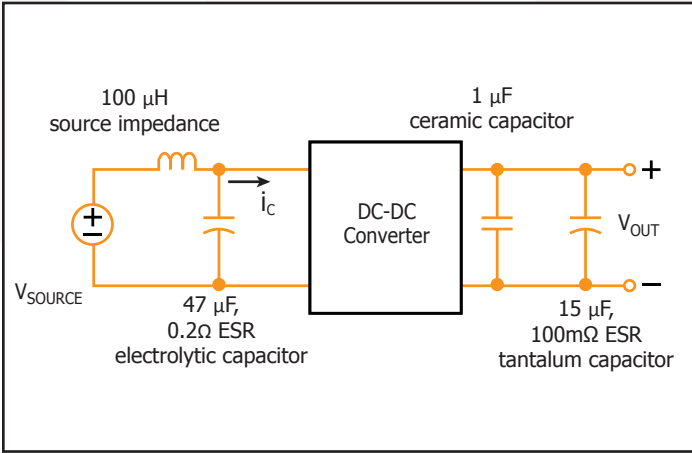

Figure 17: Test set-up diagram showing measurement points for Input Terminal Ripple Current (Figure 9) and Output Voltage Ripple (Figure 10).
**Figure 9:** Input terminal current ripple,  $i_C$ , at full rated output current and nominal input voltage with 100µH source impedance and 47µF electrolytic capacitor 100mA/div. Bandwidth: 20MHz. Timescale: 1.00µs/div. See Figure 17.
**Figure 10:** Output voltage ripple,  $V_{out}$ , at nominal input voltage and rated load current (200 mV/div). Load capacitance: 1µF ceramic capacitor and 15µF tantalum capacitor. Bandwidth: 10 MHz. Timescale: 1.00µs/div. See Figure 17.